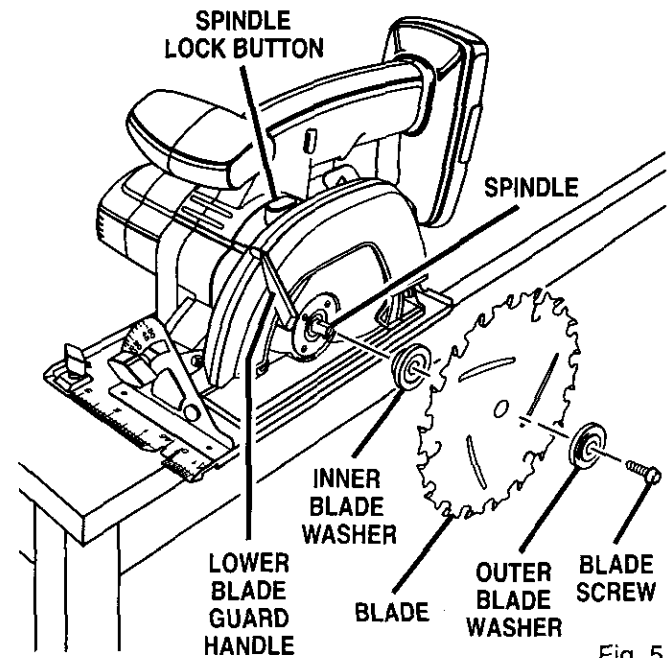

Fig. 5
- Depress spindle lock button and remove blade screw and outer blade washer. *See Figure 5.*
- Fit saw blade inside lower blade guard and onto spindle. **Note:** The saw teeth point upward at the front of saw as shown in figure 5.
- Remove outer blade washer. *See Figure 5.*